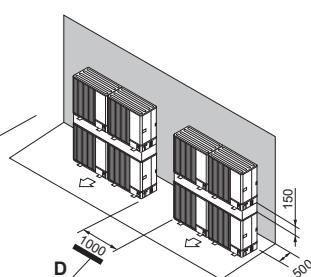

Fig. 2-21
- (7) Stacked unit arrangement (Fig. 2-21)
- D. Space (Fig. 2-21)